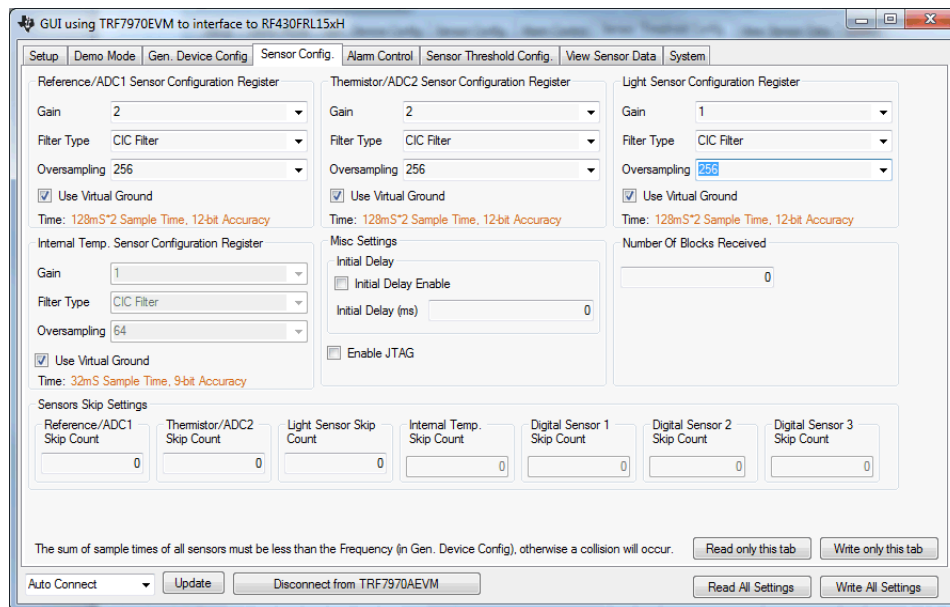

Figure 18. Custom Sensor Configuration Tab
6. Figure 18 shows the "Sensor Config." tab with these settings.